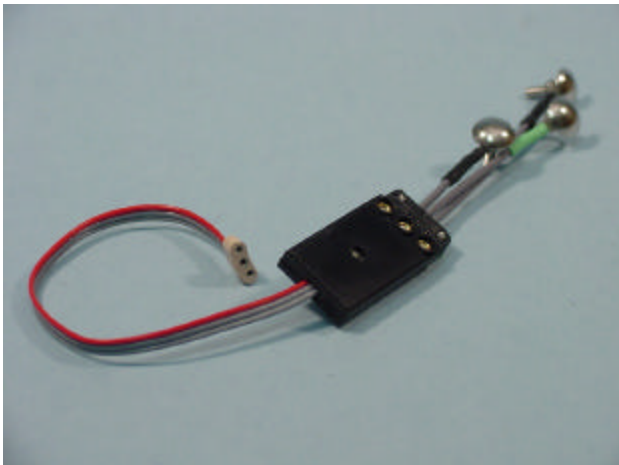

Fig 1. – Remote Electrode Kit
LTI’s Remote Electrode System (Fig 1) consists of; an Electrode-Amplifier, Metal Electrodes (3) and a Remote Electrode Cable (REC). The Metal Electrodes are placed over the muscle site and Remote Electrode cables of an appropriate length are selected to allow the Electrode-Amplifier to be placed in a convenient and inconspicuous location. These shielded REC cables are available in four lengths; 3, 6, 12 and 21 inches. The Metal Electrodes are also available in various sizes and shapes to accommodate the user. Three sizes/shapes are available; ½” diameter – standard dome, ½” diameter – deep dome and ? ” diameter – pediatric. The ½” diameter – standard dome is the default Metal Electrode and should be used for most adult applications. If a muscle site is deep within the residual limb, a deep dome Metal Electrode may be used to obtain a better signal. For smaller adult muscles and pediatric applications, the smaller ? ” diameter (“pediatric”) Metal Electrodes may be a better choice.